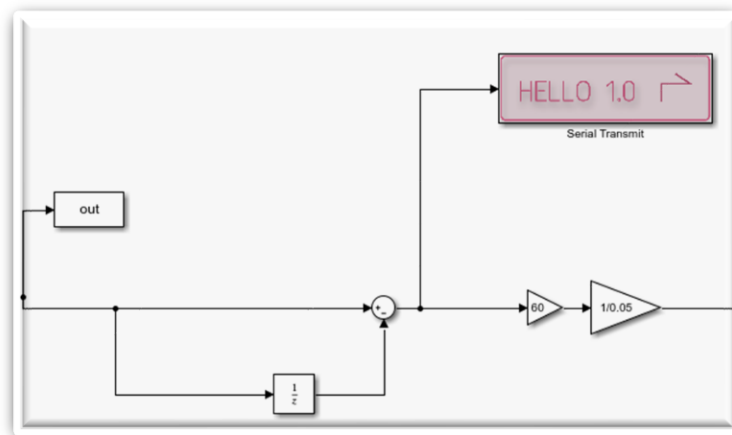

Figure 7: Block Daigram
- Place the Hello 1.0 block in the place shown in **Figure 7**. The block here is the differentiation block. Run the simulation for 5 seconds without changing any settings and add your graphical output and interpret what the derivation block is for. While commenting;